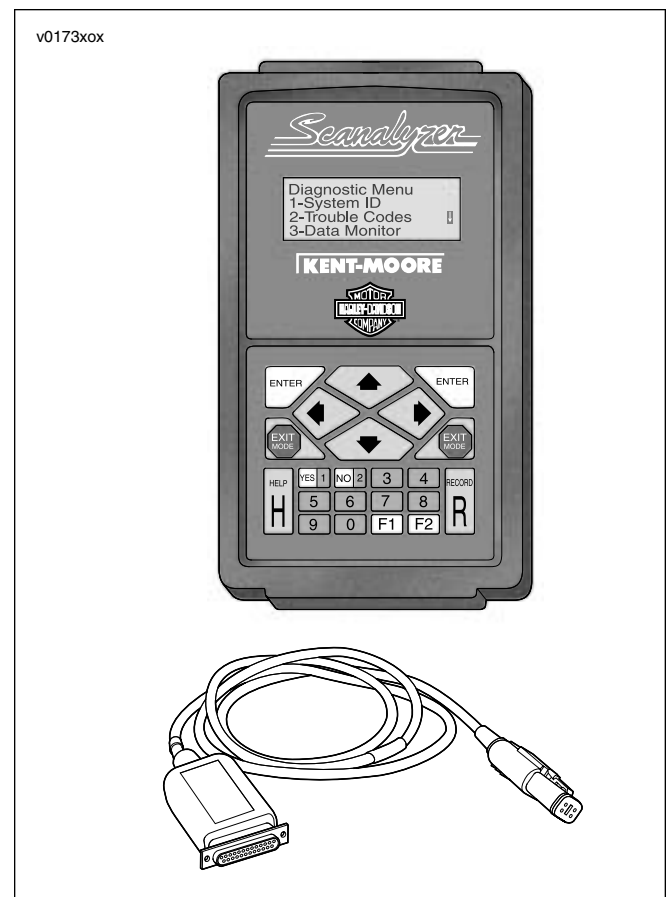

Figure 4-4. Scanalyzer and Cable
2. Retrieve trouble codes using SCANALYZER (Part No. HD-41325) or instrument module self diagnostics. See 4.5 SCANALYZER, 4.6 INSTRUMENT MODULE SELF DIAGNOSTICS and Figure 4-4.